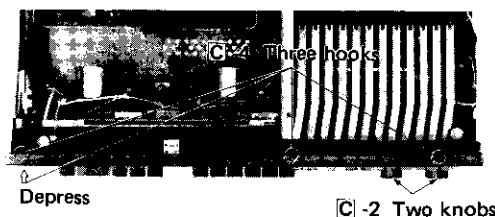

Figure 4-3
2. Pull out the volume control knob and tuning control knob. See Fig. 4-3.
4. Depress the power switch button, and detach three hooks from the front panel to take it off. See Fig. 4-3.